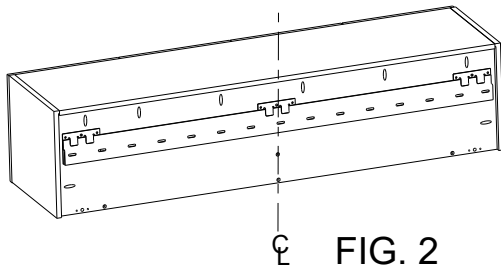

FIG. 2
- 3 IF ONE BRACKET IS BEING USED (30" THRU 72" UNITS), ALIGN THE CENTER OF THE BRACKET WITH THE EVENTUAL CENTERLINE OF THE OVERHEAD (FIG. 2)